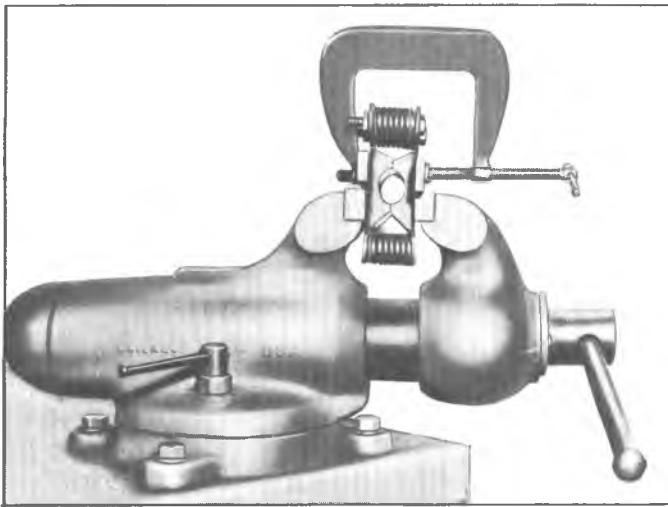

Fig. 7D—Removing Preload Springs from Pack
5. Position spring pack in vise and remove 1/4 inch bolts. Alternately relieve "C" clamp pressure and vise pressure until spring compression is relieved. See Figure 7D.